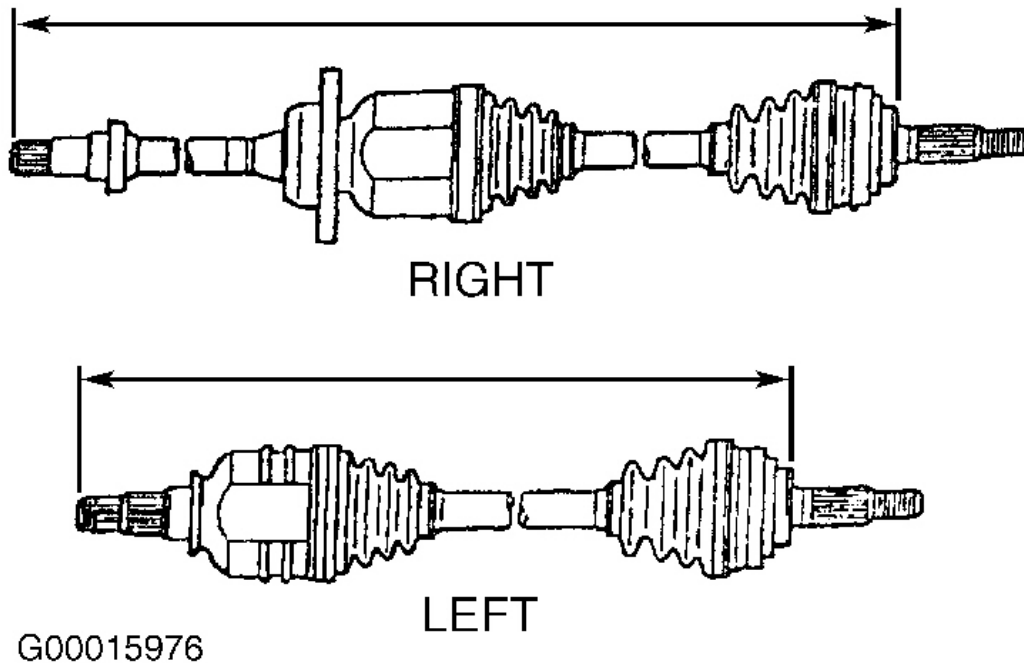

Fig. 9: Measuring Axle Shaft Length (Rear)
4. Apply grease supplied with overhaul kit into outer joint and boot. Install boot on inner housing and outer joint. Ensure boots are seated in grooves on axle shaft. Adjust axle shaft to standard axle shaft length. See **AXLE SHAFT LENGTH SPECIFICATIONS** . See **Fig. 9** . Install and tighten boot clamps.
(1) Measure axle shaft length between inner joint flange and outer joint flange. See Fig. 9 .